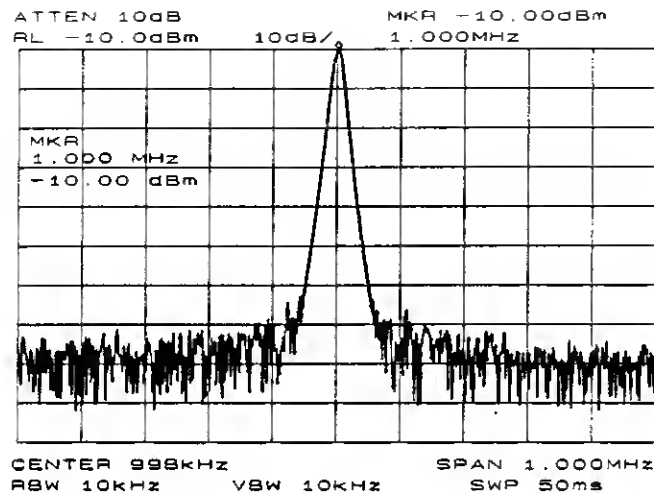

Figure 3-5. Input signal displayed in a 1 MHz span.
1. Using the present setup, clear the markers from the screen by pressing **MKR**, then **MARKERS OFF**. Notice that when **MARKERS OFF** or **HOLD** is pressed, the display expands to the full size of the screen, for easier viewing. To measure the fundamental, press **PEAK SEARCH**, which activates a marker on the highest-level signal on-screen. Reduce the frequency span to 1 MHz by pressing **SPAN**, then **SPAN ZOOM** and entering 1 MHz. The span zoom function allows you to quickly “zoom” to a narrower frequency span without losing the signal from the screen (since signal track is activated). After the frequency span is reduced, turn off the signal-track function by pressing **MKR**, and setting **SIG TRK ON OFF** to **OFF**. Next, set the center-frequency step-size to the frequency of the fundamental by pressing **MKR->**, then **MKR -> CF STEP**. For better amplitude accuracy, move the signal to the top of the graticule by pressing **MKR -> REF LVL**. The resulting display should resemble Figure 3-5.